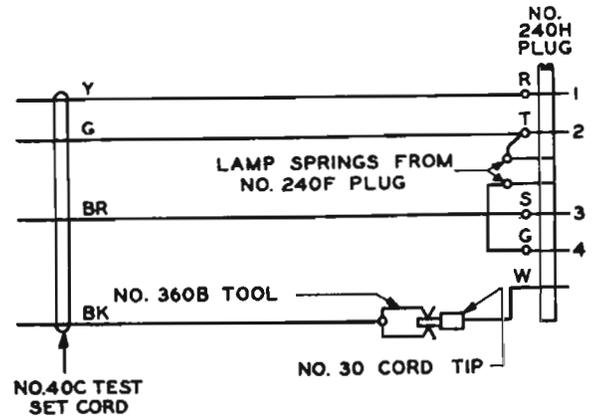

Fig. 1 – Modification at the No. 240H Plug
2.04 No. 40C test set with the No. 240H plug modified as in Fig. 1 by adding one pair of lamp springs obtained from a No. 240F plug and connecting the top spring to the tip plug terminal and the bottom spring to the ground plug terminal. Insert a No. 2T lamp in the lamp jack. Leave the No. 360B tool of the test cord disconnected from the W terminal of the No. 240H plug.